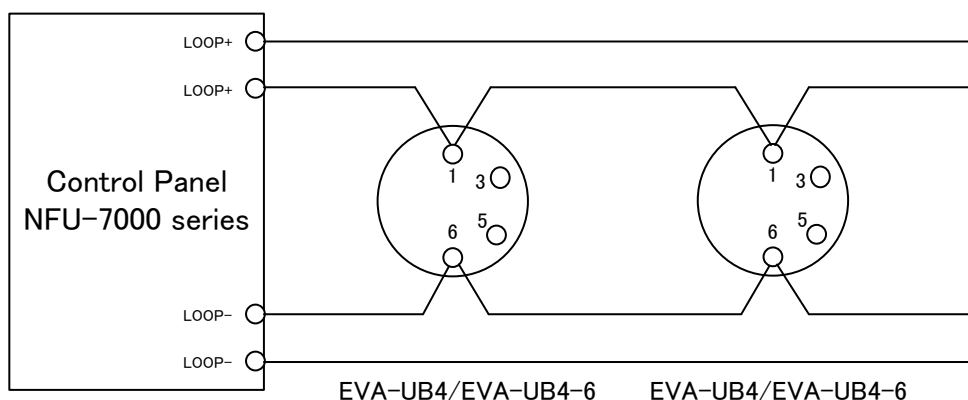
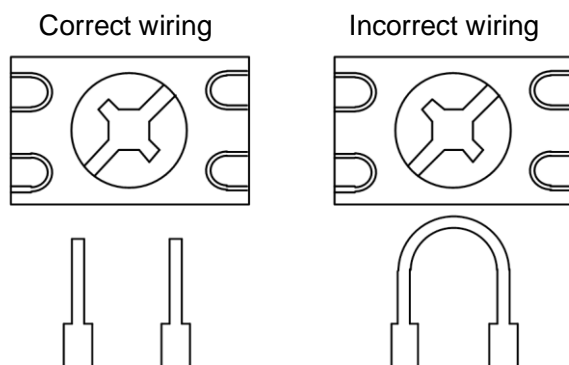

Figure 18: Wiring diagram for EVA-UB4 and EVA-UB4-6
Figure 19: Correct and incorrect wiring method
1. Pass the field wiring through the rear center cable opening in the mounting base. Install the base to the electrical box with screws via the base mounting holes. Connect the field wiring to the base terminals, as detailed in Figure 18. Do not use looped wire under terminals (See Figure 19).